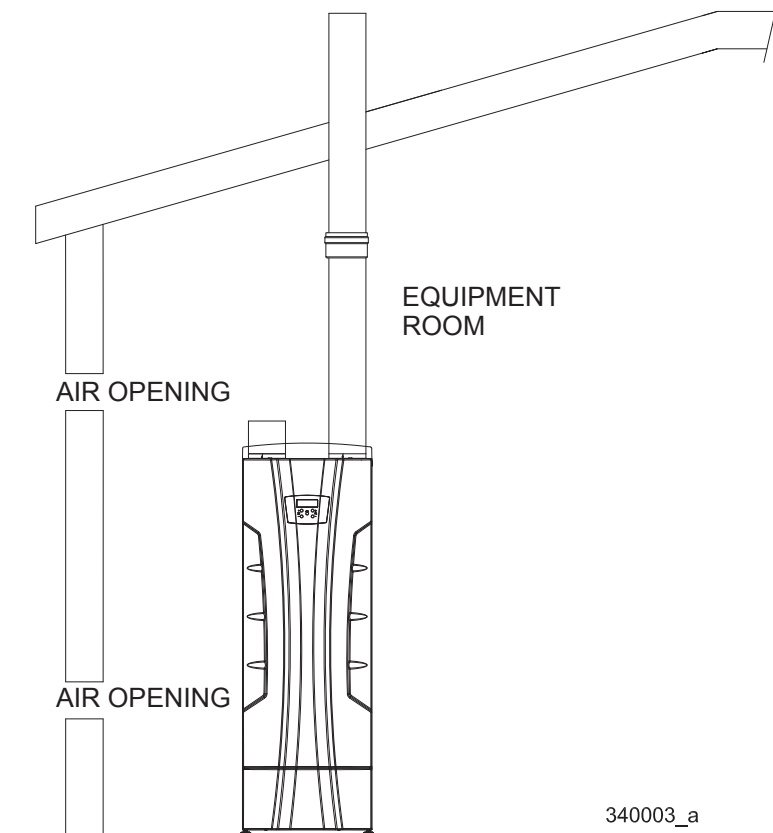

Figure 5-1 Combustion Air direct from outside
1. If air is taken directly from outside the building with no duct, provide two permanent openings to the equipment room (see Fig. 5-1)